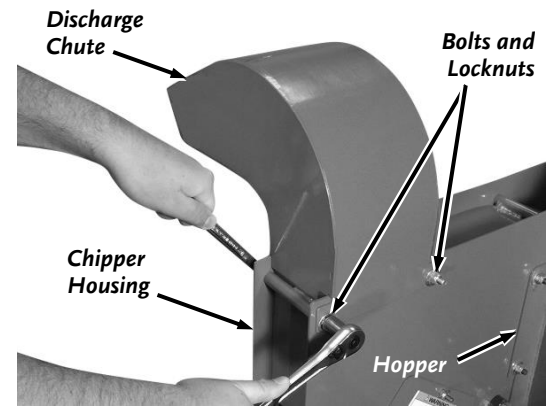

Figure 9
**Note:** You may need to loosen surrounding hardware near the Discharge Chute mounting holes to make it easier to insert the Discharge Chute between the Housing Plates (Figure 9). Tighten all hardware when finished.